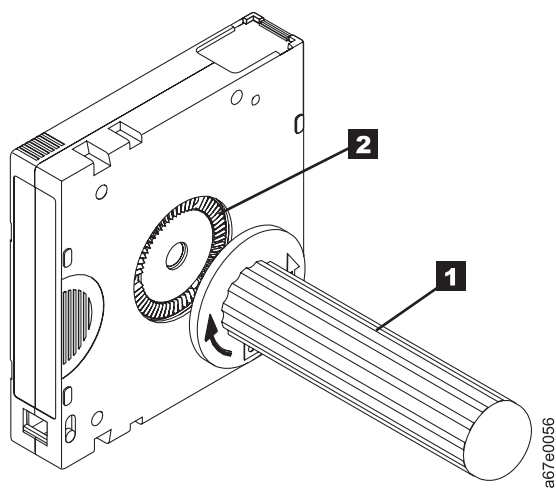

Figure 42. Rewinding the tape into the cartridge
5. To rewind the tape, insert the cartridge manual rewind tool (**1** in Figure 42) into the cartridge's hub (**2**) and turn it clockwise until the tape becomes taut.